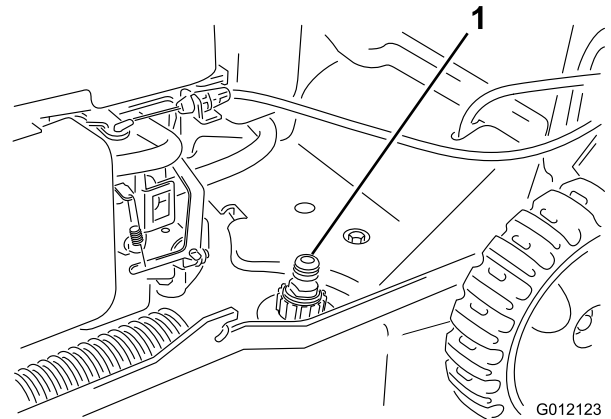

Figure 26
- Attach a garden hose that is connected to a water supply to the washout port on the mower housing (Figure 26).